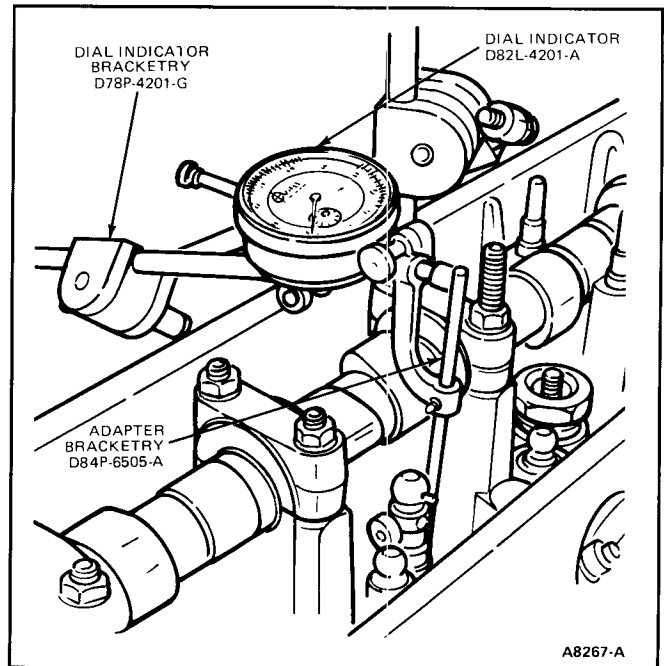

FIG. 66 Valve Stem Clearance Bracketry
5. Install Dial Indicator Bracketry D78P-4201-G and Dial Indicator D82L-4201-A, with Bracketry Adapter (Part of D84P-6505-A) or equivalent (Fig. 66).